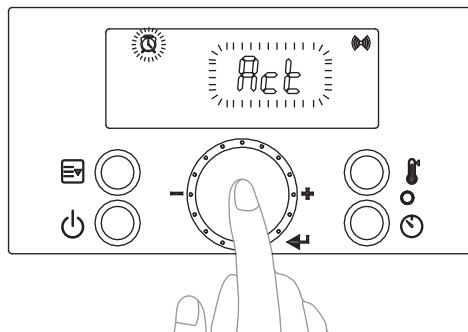

Figure 41 – Setting the Recirculation Timer Type
- b. Press the  button at the "Act" screen to select the Recirculation Timer type. See Figure 41. Turn the dial  to choose between "Auto" or "Pro9".
**NOTE:** If "Auto" is selected, the water heater will monitor and record hot water usage patterns over a period of seven (7) days. After this learning period, the water heater will use the usage pattern to automatically cycle the pump and preheat the water.